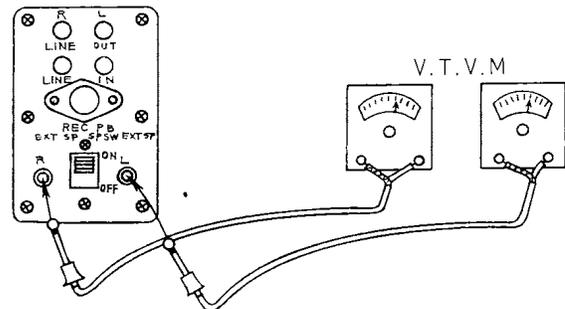

Fig. 10
2) Adjustment of the recording level...Figs. 10, 11 and 12.
b) Place the SPEAKER switch of the set to ON position, and turn the volume control knob (VOLUME: L or R) completely to the right (clockwise) to gain maximum volume. Then connect the V. T. V. M. (vacuum tube voltmeter) to the speaker terminal as shown in Fig. 10. Adjust the output of the low-frequency oscillator so that the output voltage reaches 0.45V